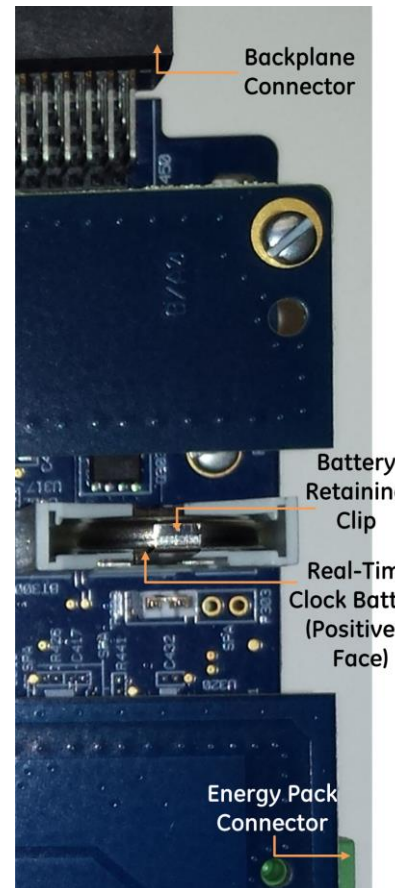

Figure 25: Location and Orientation of Real-Time Clock Battery in CPE330
The CPE330 is shipped with a real-time clock (RTC) battery installed (see Figure 25). There is no isolation barrier between the battery and the circuit. This battery will need to be replaced periodically. Typically, no action is required during initial installation.
7. Remove the sheet metal. This exposes the circuit board, connectors and coin battery shown in Figure 25.
10. Install the replacement battery so that the inscribed positive face is towards the green connector (i.e. downwards as shown in Figure 25).